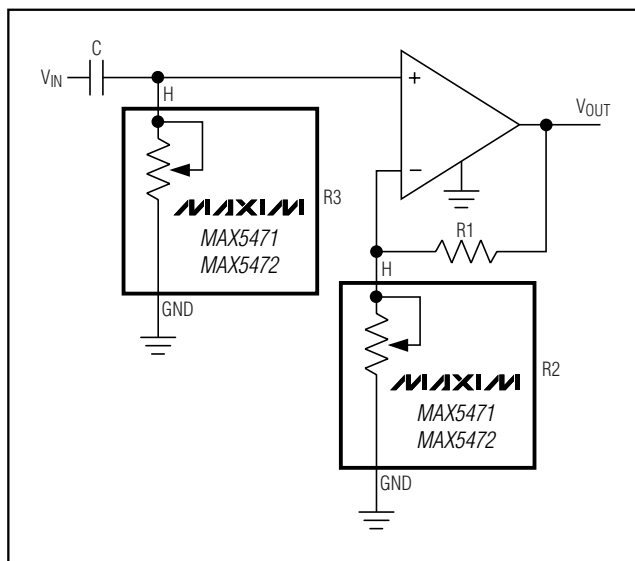

Figure 6. Programmable Filter
Figure 6 shows the configuration of a 1st-order programmable filter. The gain of the filter is adjusted by R2, and the cutoff frequency is adjusted by R3. Use the following equations to calculate the gain (G) and the 3dB cutoff frequency ( $f_c$ ):